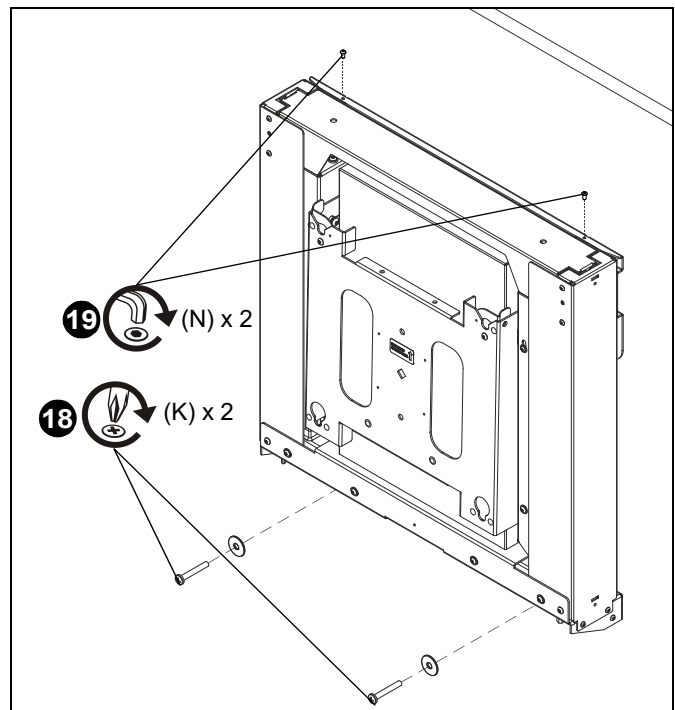

Figure 21
17. Install a toggler anchor (J) into each pilot hole following Steps 4-7 in this section.
18. Hang wall mount back onto top bracket and install two 1/4-20 x 2 1/2" Phillips pan machine screws (K) through lower mounting holes on mount and into toggler anchors (J). (See Figure 21)
19. Use two 1/4-20 x 1/2" button head cap screws (N) and 1/8" hex key (R) to secure mount to wall. (See Figure 21)